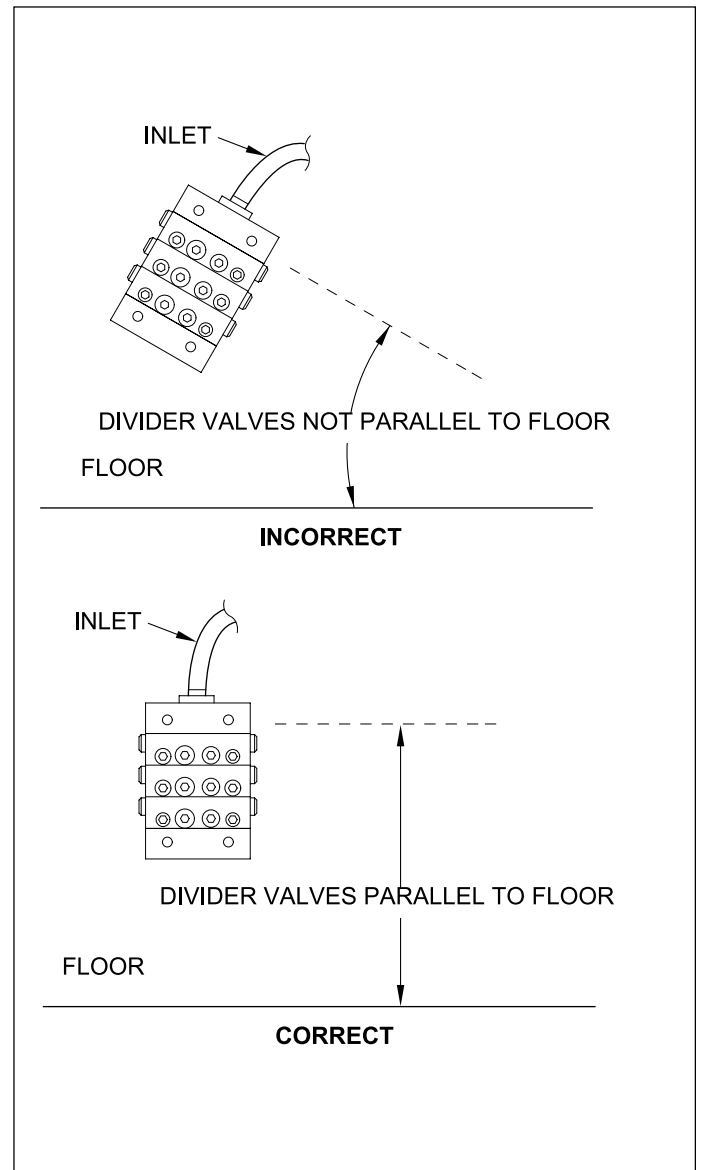

Figure 4
- The divider valve assembly should be oriented so that the spools in the working-valve sections operate parallel to the floor. Avoid mounting the divider valves in such a way that they are tilted relative to the floor plane or perpendicular to it (see Figure 4).